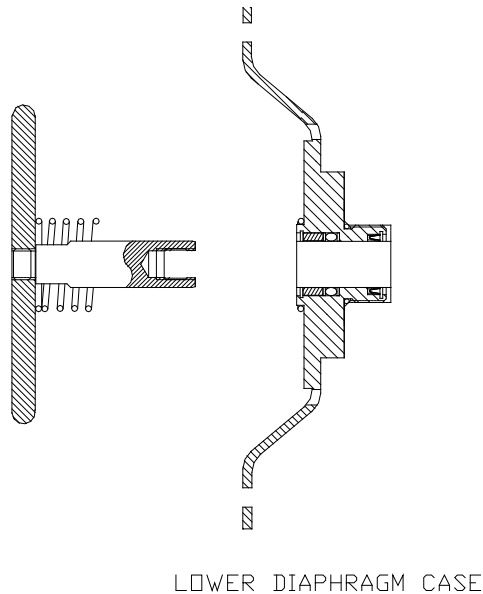

FIGURE 9
3.2.10 Carefully push the shaft #4 through the lower diaphragm case until the diaphragm plate #3 clears the case. Then, pull the plate and shaft out from the top (see Figure 9).